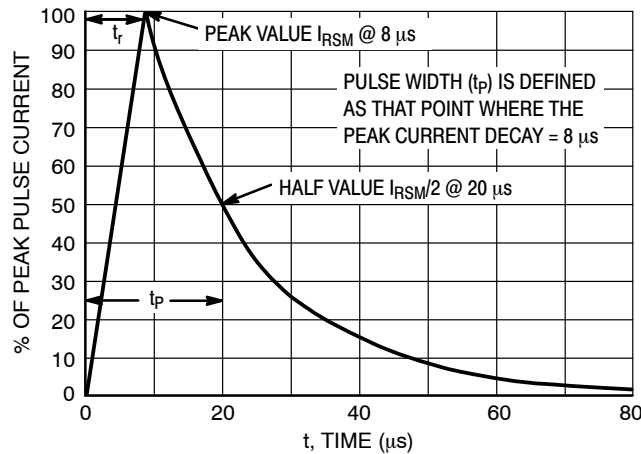

Figure 10. 8 x 20 μ s Pulse Waveform
- Non-repetitive current pulse at T_A = 25°C, per IEC61000-4-5 waveform, See Figure 10.